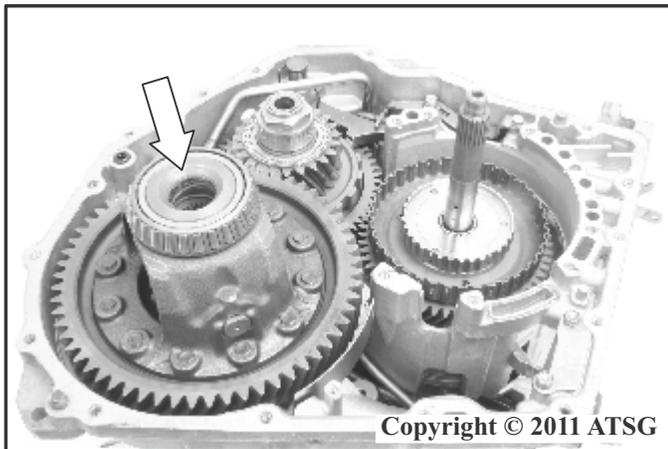

Figure 240
71. Coat the front differential bearing assemblies with a small amount of atf and install the differential into the transmission as shown in Figure 240.